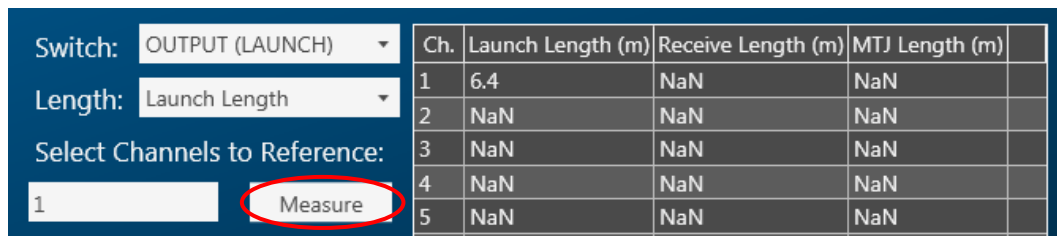

Figure 20: Measure launch length of the output switch
- Without changing the optical connections, measure the launch length of the output switch on channel 1 (Figure 20).